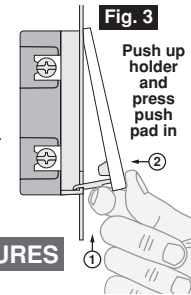

Fig. 3
**Air-Gap Switch:** On the dimmer only, gently pull the bottom of the push pad forward until it lifts off the strap to engage the air-gap switch. This will cut power to the fixture to replace the bulb. After servicing is complete, to return push pad back to neutral position disengage the push pad holder by pressing on push pad holder with index finger while pushing the push pad back into the neutral position (refer to OPERATION figure 3).
- C)** To return push pad back to neutral position disengage the push pad holder by pressing up on push pad holder with index finger while pressing the push pad until fully depressed (refer to OPERATION figure 3) and hold for 7 seconds until the LED Brightness Display starts bidirectional strobing to indicate Program Mode **C, Restore Default**. To **Restore Default** settings, release the Push Pad. This will exit programming mode **C**.